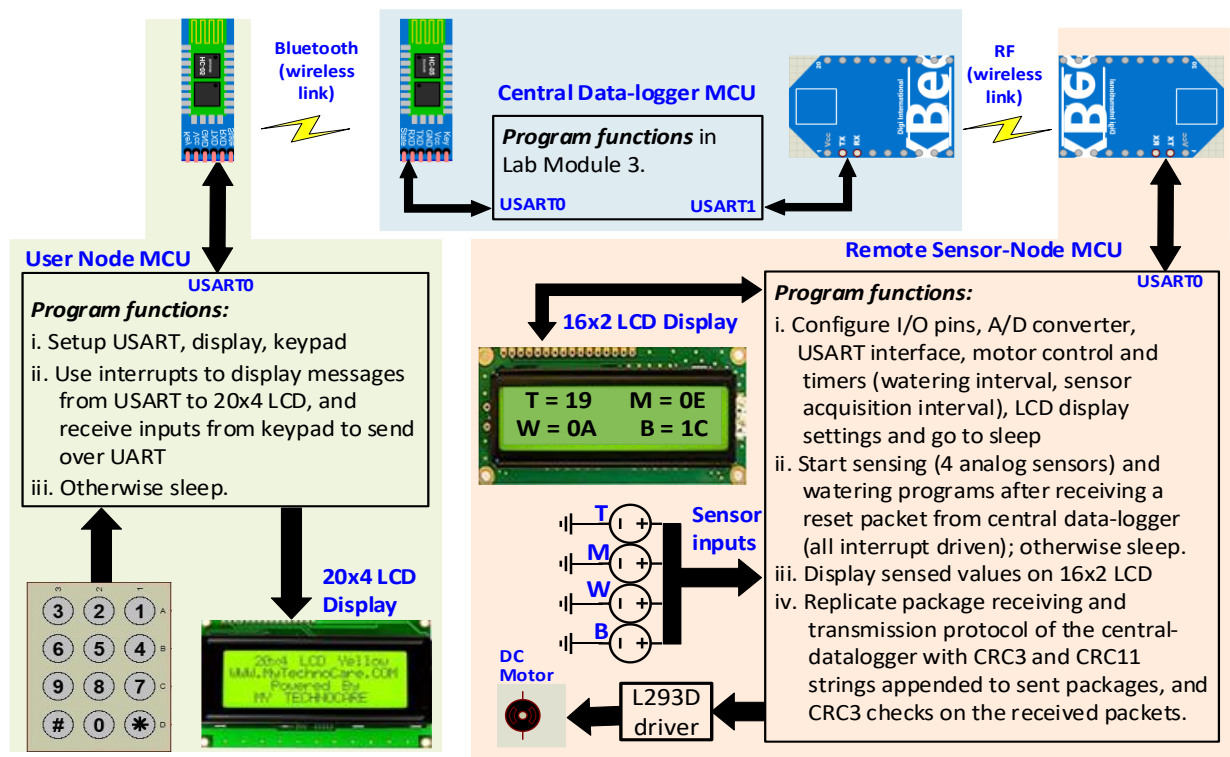

Figure 4.1. Functions/interfaces of the smart farming system with user node and remote sensor node.
The peripheral user node and remote node associated with the *smart data logger system* will be designed to complete the semester project. The subsystems at each node will be designed around an ATmega128 MCU, as depicted in Figure 4.1. Sensor analog inputs are converted to 5-bit digital values, as shown, and are displayed instantly at 16 x 2 LCD for Temperature (T), Moisture (M), Water Level (W), and Battery Level (B).
- d) Given the rotational speed of the waterpump (motor) will vary between **20% to 80%**, depending on the moisture (M) level at the remote node, calculate and indicate relevant PWM generation settings you plan to program in the motor control section of your remote node solution. What will be the default motor speed before any data has been received from moisture sensor? Why?
- i) Considering your answers to (f-h), and system farming system representation in Figure 4.1, use component datasheets to investigate estimated minimum (IDLE) and maximum (ACTIVE) power dissipation for components in your system, including times when both wireless transmission interfaces are active into your worst-case power scenario. Complete the blanks in Table 4.1.
Use Proteus to create Module4\_Proteus project. Instantiate and connect ATMEGA128 microcontrollers, Xbee, HC-05 and new peripheral components as in Figure 4.1. Make sure your COM settings are configured correctly for each wireless communication device, and wireless pairing is properly done using